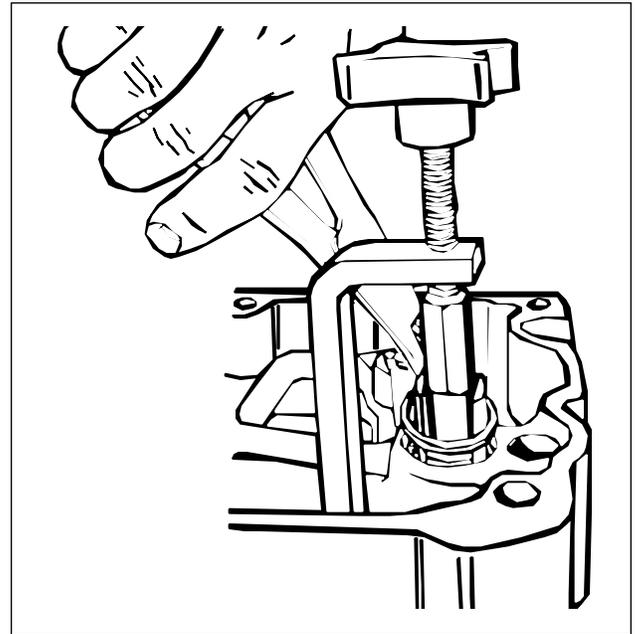

FIG. 24
1. Place the hole in the removal tool bracket over the adjusting screw. Place the screw end between the slave piston legs (Fig. 24).
3. Remove the retaining ring with retaining ring pliers (Fig. 24). Back out the removal tool until the springs are loose. Remove the tool.
4. Remove the retainer, springs (2) and slave piston. Check for nicks or burrs that could cause binding.